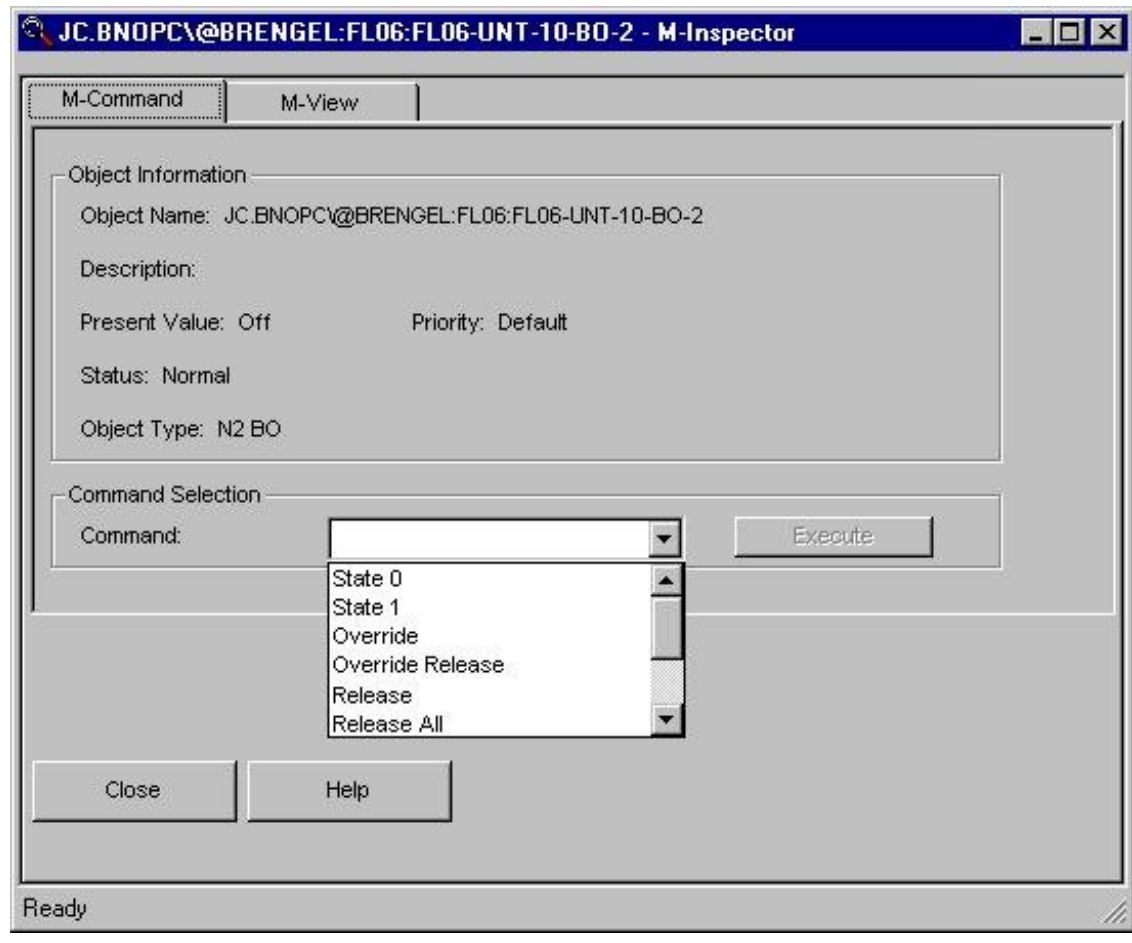

Figure A-4: Command Drop-Down List
3. In the Command field, click the drop-down arrow to view a list of supported commands (Figure A-4).